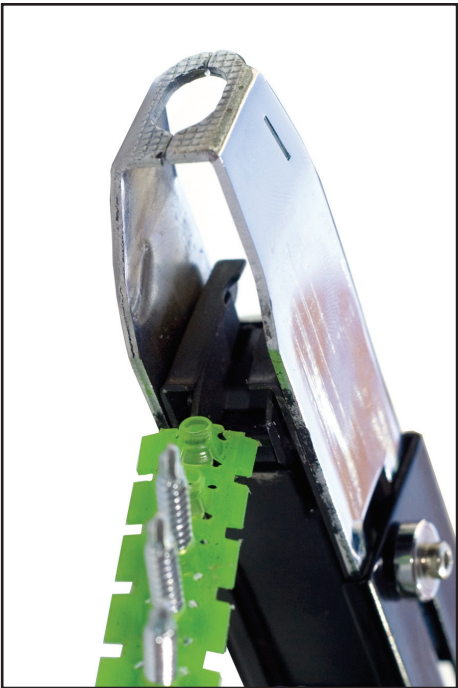

Figure 1
3. Insert a strip of screws into the feed track. Pull it through and insert the front into the index module. See **Figure 1**.